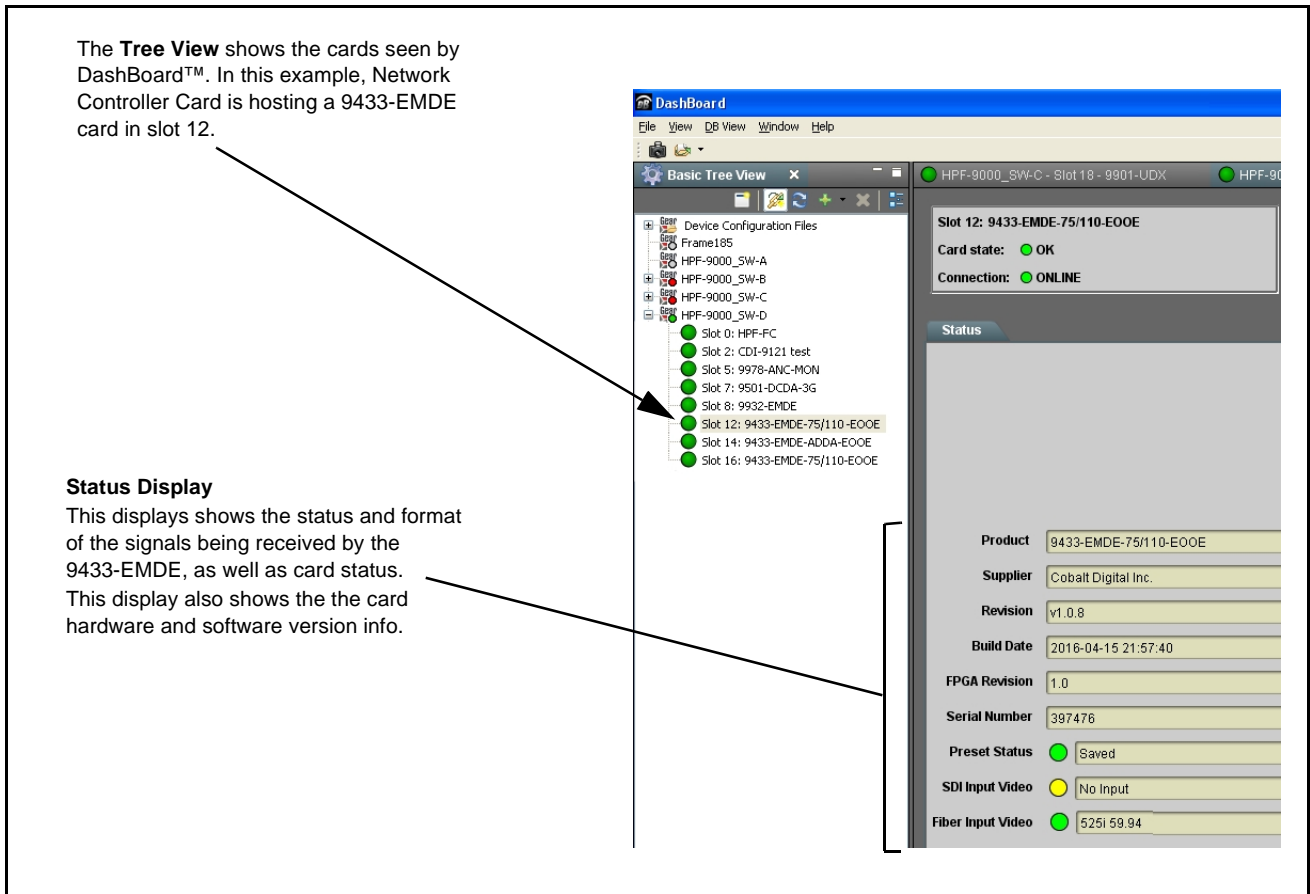

Figure 3-3 9433-EMDE Card Info/Status Utility
The operating status and software version the 9433-EMDE card can be checked using DashBoard™ or the card edge control user interface. Figure 3-3 shows and describes the 9433-EMDE card information screen using DashBoard™ and accessing card information using the card edge control user interface.
**Note:** Proper operating status in DashBoard™ is denoted by green icons for the status indicators shown in Figure 3-3. Yellow or red icons respectively indicate an alert or failure condition. Refer to Troubleshooting (p. 3-12) for corrective action.